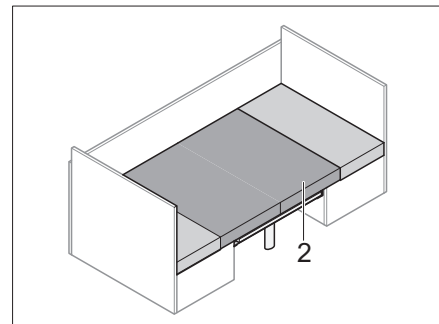

Fig. 60 Inserted additional cushion
- Insert the supplied additional cushion (Fig. 60,2).